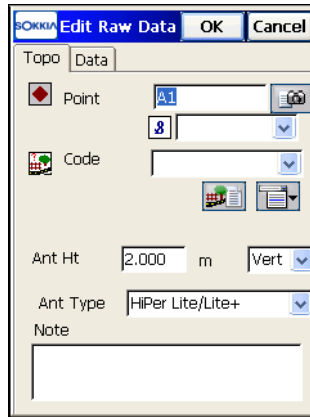

Figure 6-32. Edit Raw Data
6. On the *Edit Raw Data* screen (Figure 6-32 on page 6-24), enter additional notes for a point by typing the note in the suggested field. The appearance (parameters) of this screen varies based on the type of raw data being edited. (Note that editing *Ant Ht*, *HR & HI* values, *azimuth*, etc., will not immediately recompute coordinates.)